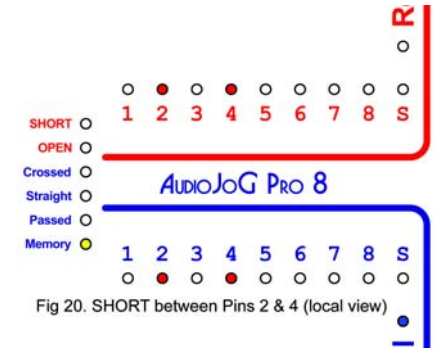

Fig 20. SHORT between Pins 2 & 4 (local view)
a) A short was found, between wires 2 and 4 (Fig20).